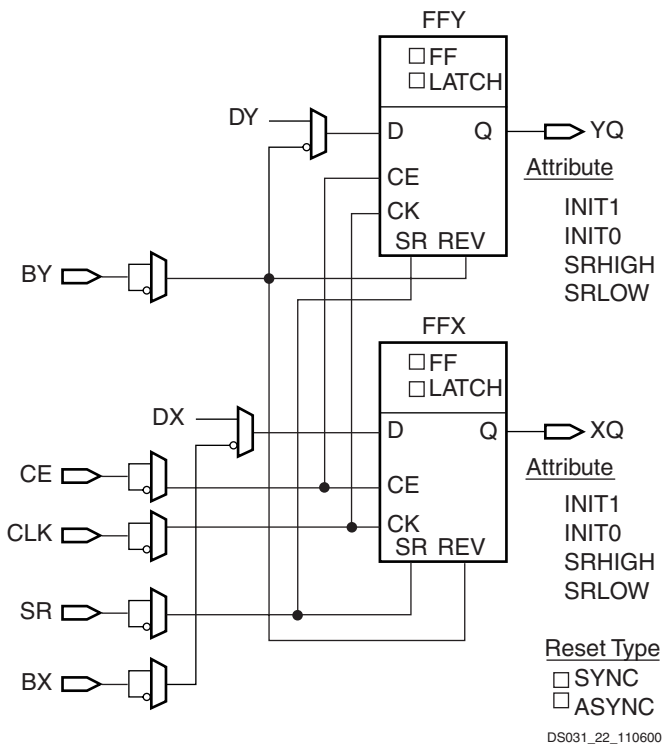

Figure 18: Register/Latch Configuration in a Slice
In addition to clock (CK) and clock enable (CE) signals, each slice has set and reset signals (SR and BY slice inputs). SR forces the storage element into the state specified by the attribute SRHIGH or SRLOW. SRHIGH forces a logic "1" when SR is asserted. SRLOW forces a logic "0". When SR is used, a second input (BY) forces the storage element into the opposite state. The reset condition is predominant over the set condition (Figure 18).